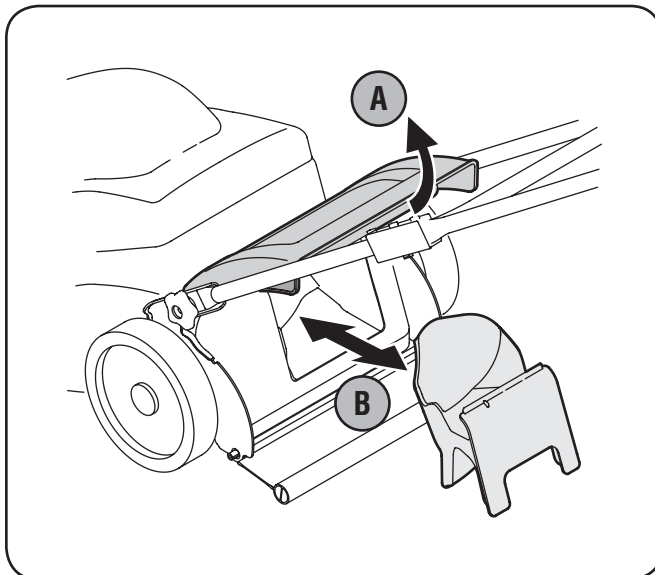

Figure 3-4
- Remove rear mulching baffle. See Fig. 3-4.